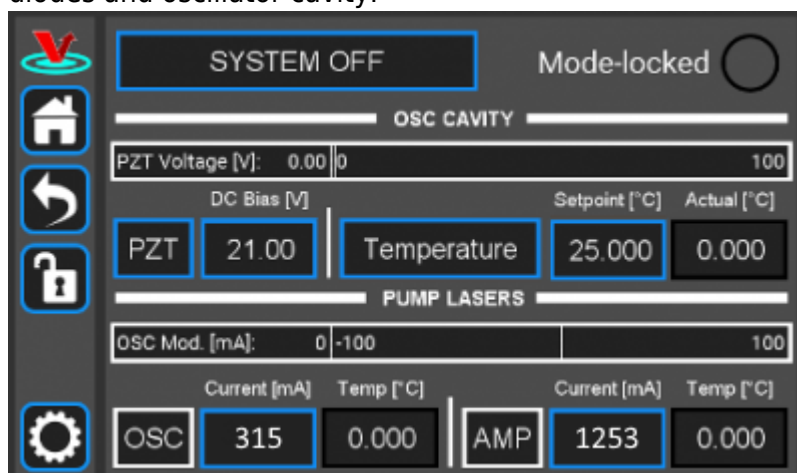
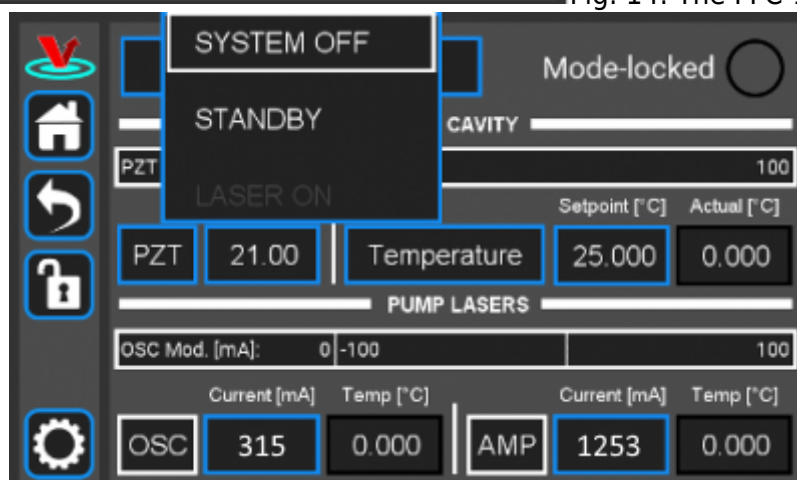

Fig. 14: The FFC-100 GUI in off state
Fig. 15: Select Standby laser state
1. Touch the “System Off” button at the top of the front panel screen (figure 14) to bring up a drop-down menu. Select “Standby” (figure 15) to turn on temperature control of the pump diodes and oscillator cavity.